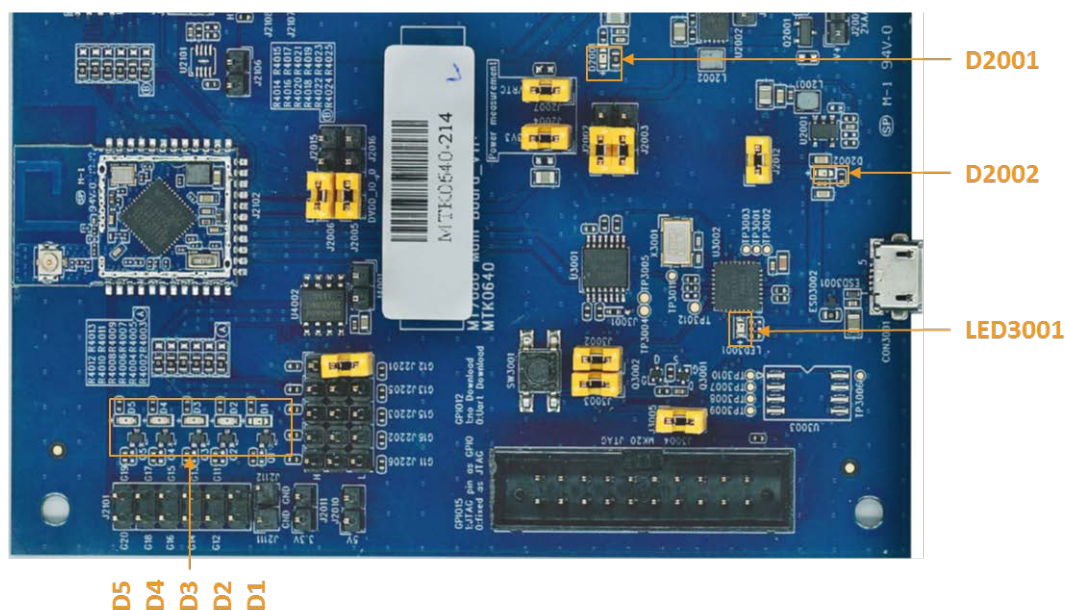

Figure 7. On-board LEDs
The MT7686 HDK has onboard LEDs associated with different functionalities of the board (Figure 7).
- 4) **D1, D2, D3, D4, and D5** are LEDs assigned for user interaction. All LEDs are high active (Figure 7).